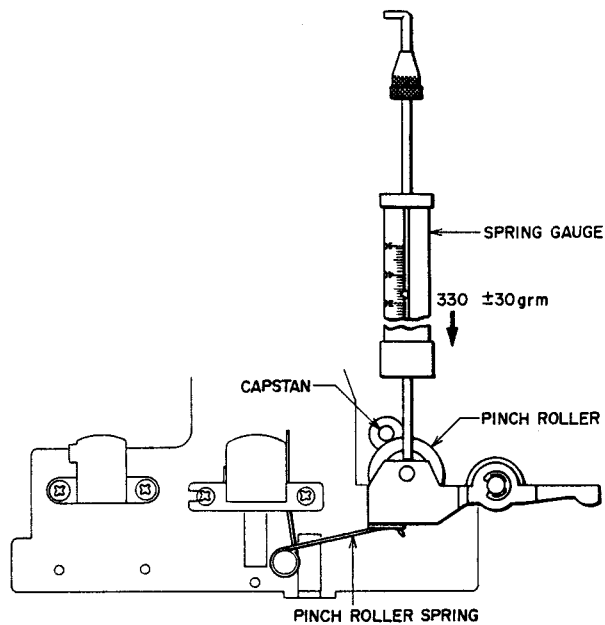

Fig. 11
3. PINCH ROLLER PRESSURE MEASUREMENT (Refer to Fig. 11)